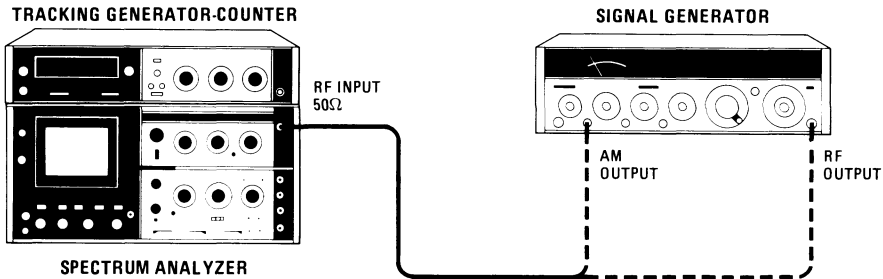

Figure 4-1. Frequency Range Test Setup
1. Set the controls on the instruments shown in Figure 4-1 as follows: